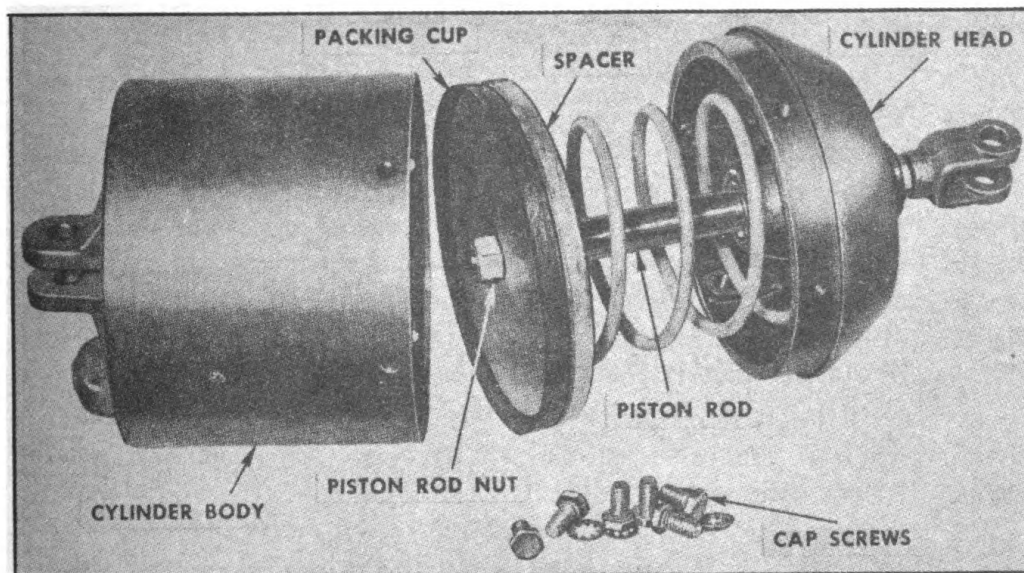

FIGURE 35. CYLINDER—DISASSEMBLED
d. Testing for leakage.—(1) It will be necessary to remove brake cylinder from unit to test for leakage.
(2) Apply 60 lbs. of air pressure to cylinders.
(3) With a brush and soap suds paint around bolting flange, at the opening to the air strainer, and around the push rod guide.
(4) Excessive leakage should be corrected by disassembling the cylinder, thoroughly cleaning all parts, and replacing the packing cup.
e. Disassembly (Figure 35).—(1) Remove the six cap screws holding the cylinder head in place and pull push rod and piston assembly out of cylinder body.